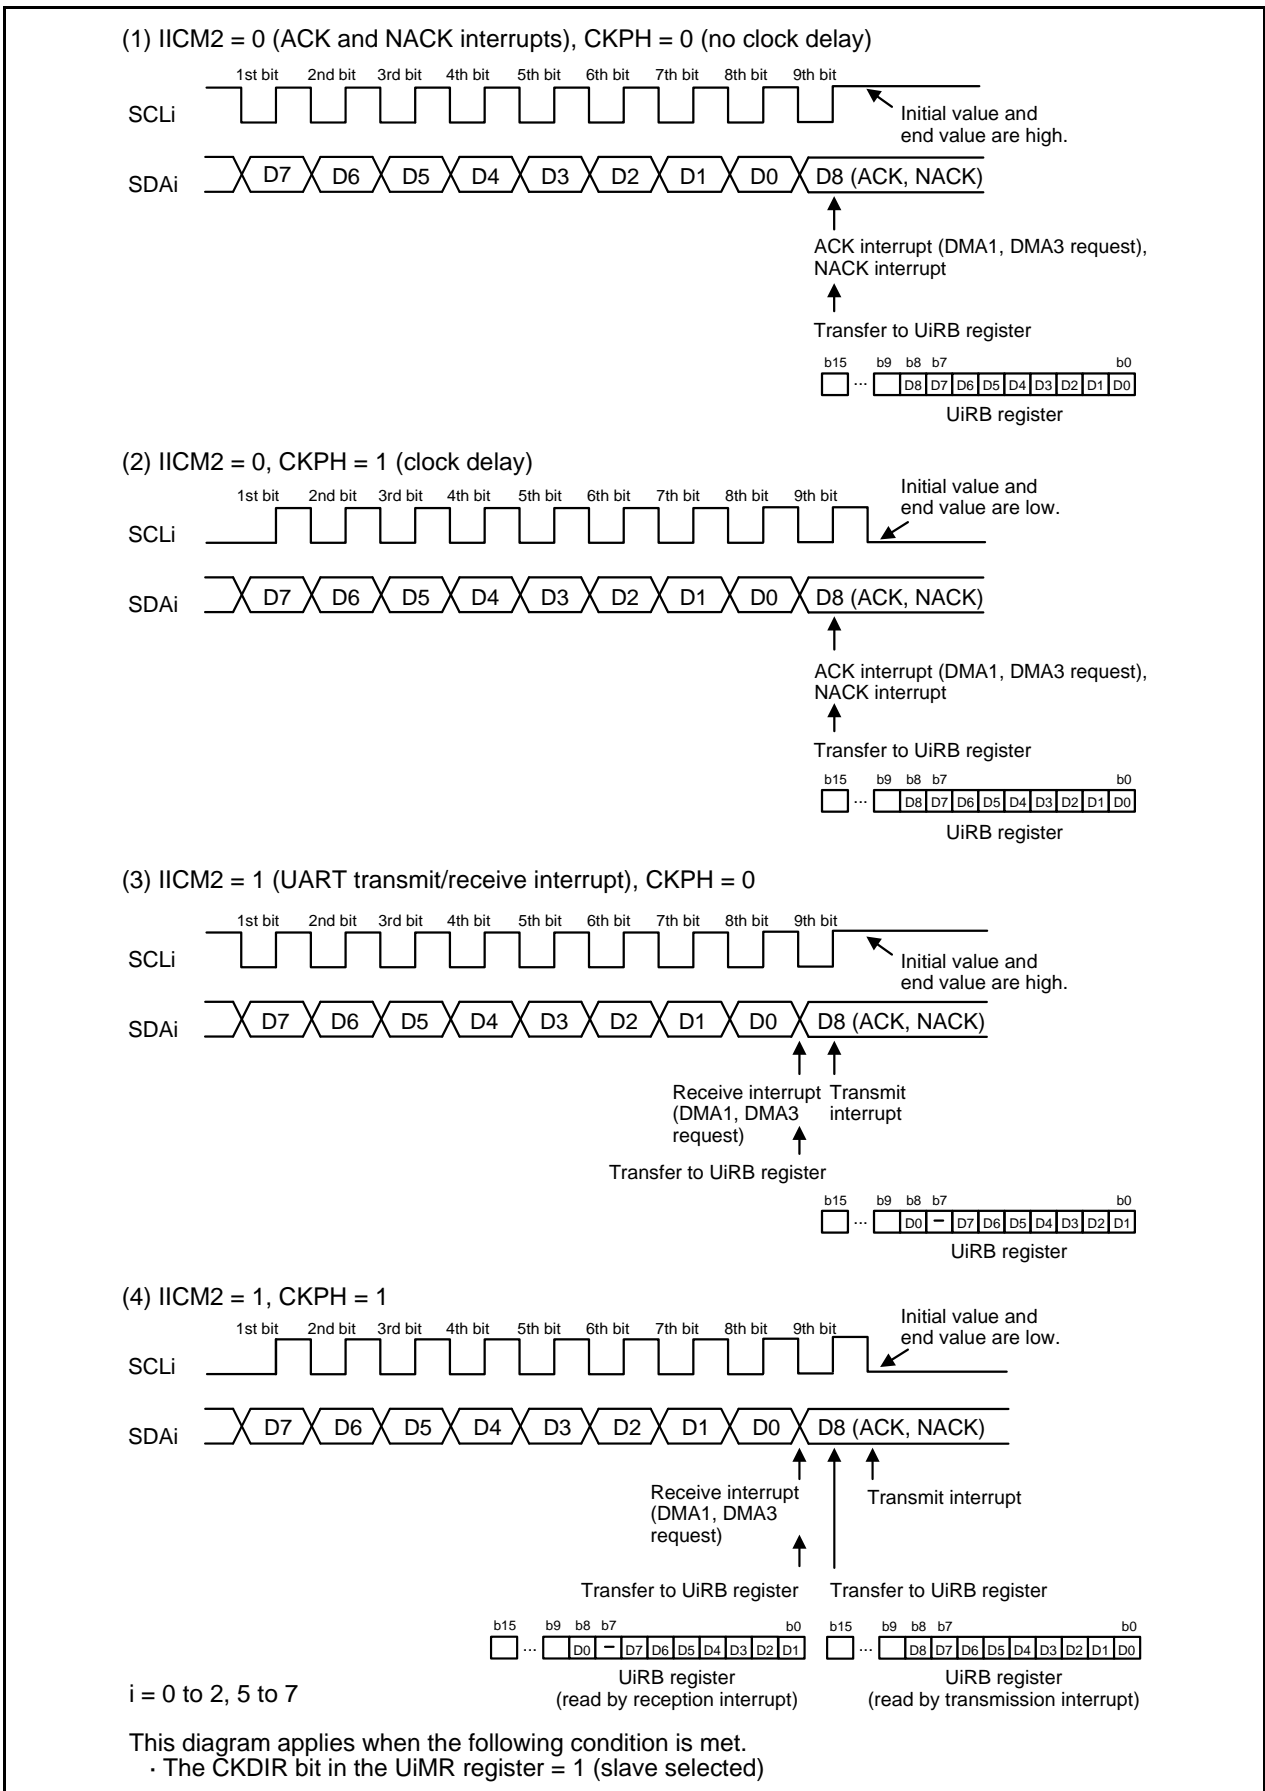

Figure 23.19 Transfer to UiRB Register and Interrupt Timing
In I2C mode, the functions and timings vary depending on the combination of the IICM2 bit in the UiSMR2 register and CKPH bit in the UiSMR3 register. Figure 23.19 shows Transfer to UiRB Register and Interrupt Timing. Refer to Figure 23.19 for the timing of transferring to the UiRB register, the bit position of the data stored in the UiRB register, types of interrupts, interrupt requests and DMA request generation timing.
2. See Figure 23.19 “Transfer to UiRB Register and Interrupt Timing”.
The transmit/receive clock is used to transmit/receive data as is shown in Figure 23.19.